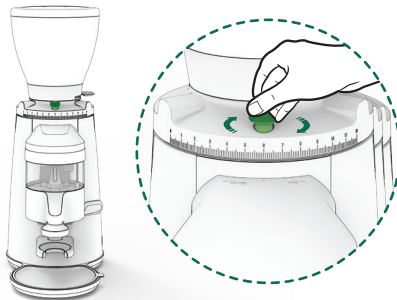

Fig. 2
Only for a K6 model: Once you reach the desired grinding point, you can fix the grinding regulation using the regulation brake (5) (Fig. 2).